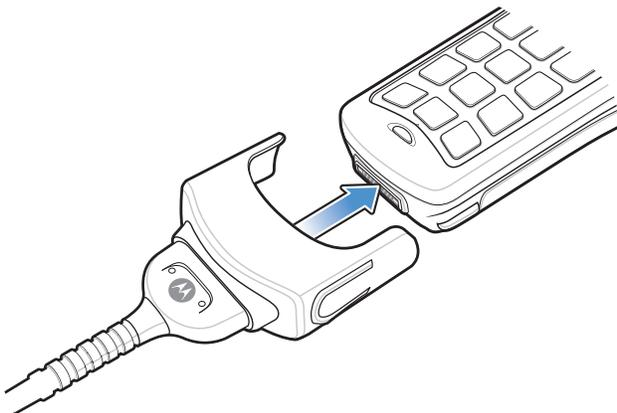

Figure 2-7 Cable Connection
14. Connect the mobile computer to the host computer. See Figure 2-2 to set up a Single Slot Serial/USB cradle, or see Figure 2-7 on page 2-8 to set up a cable.
14. Connect the mobile computer to the host computer. See Figure 2-2 on page 2-3 to set up a Single Slot Serial/USB Cradle, or see Figure 2-7 on page 2-8 to set up a cable.